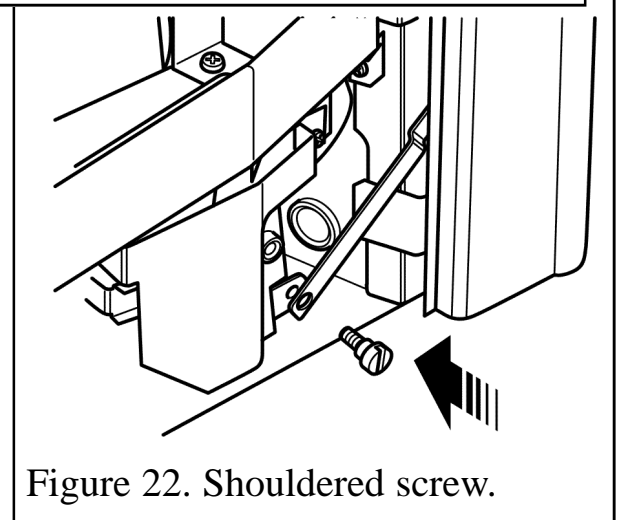

Figure 22. Shouldered screw.
3. Connect the control linkage to the control pivot plate using the shouldered screw and using a screwdriver (Not finger tight only) (See figure 22).